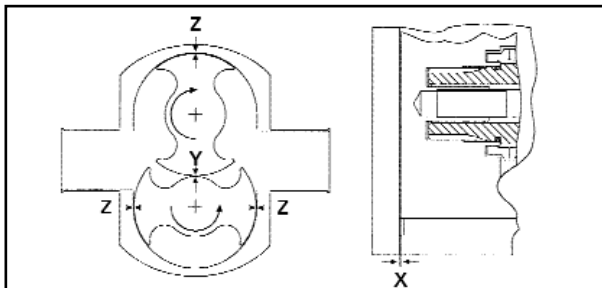

Figure 18 - Shim / Clearance Measuring
Hy-Line and Ultima pumps have very small, carefully controlled clearances between rotors and rotor case - see figure 18a for specific details. If the end clearances are incorrect they can be adjusted. The other clearances- rotor to rotor (Y) and rotor tip to rotorcase bore (Z) factory set and cannot be adjusted. See figure 18.
- a) With the pump assembled, the end cover (122) removed and the rotors (56 & 57) and rotorcase (1) fully secured to the correct torques. Measure the rotor front end clearances (X) using a depth gauge or feeler gauge and straight edge.
- b) If the clearance is incorrect, remove the rotors (56 & 57) see section 6.02. Remove the O rings (31) and shims (30), the shims are cut to allow them to slide over the shaft. Tri-bolt shaft shims are uncut.
- d) Measure the thickness of the shim pack for each shaft and calculate the thickness of shim to add or remove on each shaft to give the front clearance specified in figure 18a. Shims are available in increments of 0.025 mm (0.001 inch). (See Figure 18).